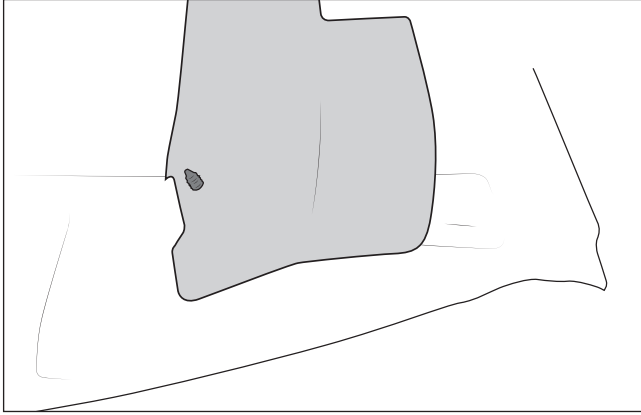

Figure 28
5. Passenger side: Drill $\frac{1}{4}$ " hole as shown through wheel liner and rigid plastic backing (fig.28). Insert Christmas tree fastener through wheel liner side and through plastic backing to retain liner.